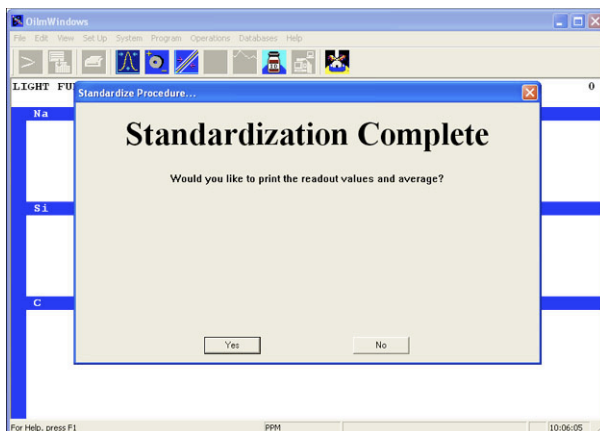

Figure 2-11, Standardization Complete, Dialog
15. After making as many measurements as necessary to obtain a good average, press function key 6 (F6), click the average icon, or select Operations/Average from the pull down menu. The average of each element will be calculated and displayed below each element's column of measurements. The next dialog to appear will indicate standardization is complete and inquire if the average and burns for the last standard measured should be printed. Refer to Figure 2-11.